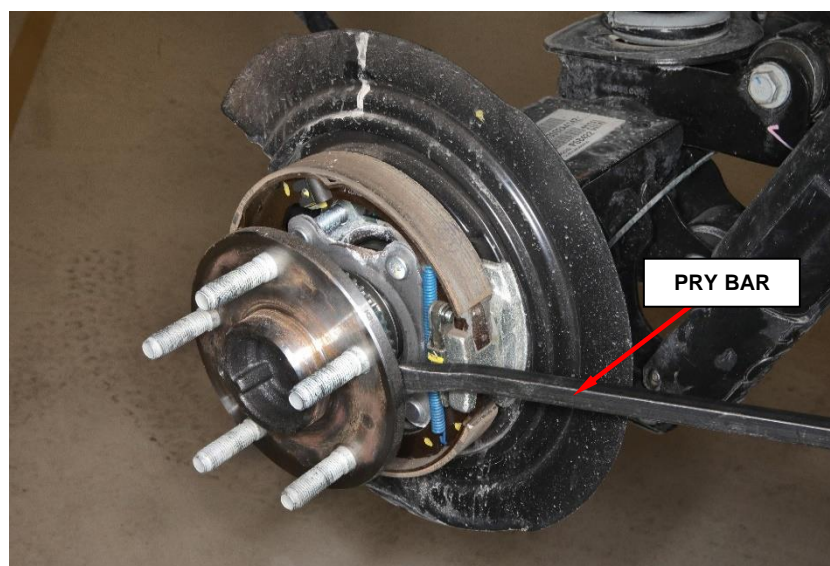

Figure 7 – Axle Shaft Removal
10. Remove the axle shaft with the support plate, bearing and seal from axle tube using a pry bar or suitable tool and **DISCARD** (Figure 7).